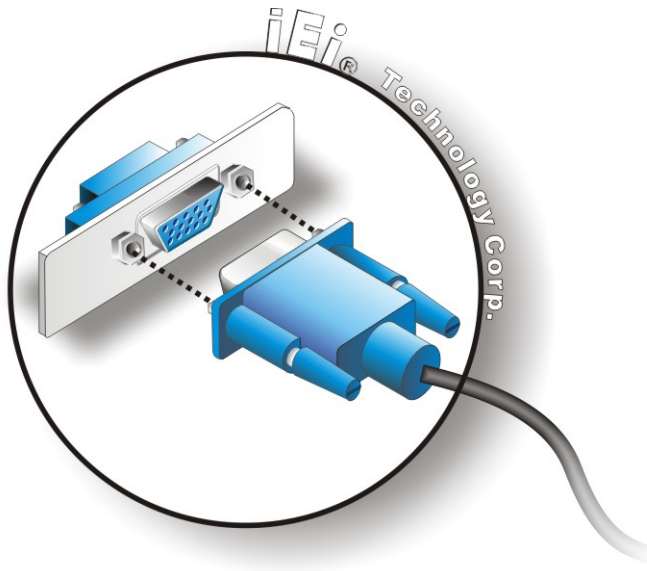

Figure 4-17: VGA Connector
- Step 3: Insert the VGA connector.** Once the connectors are properly aligned with the insert the male connector from the VGA screen into the female connector on the KINO-AH612. See **Figure 4-17**.